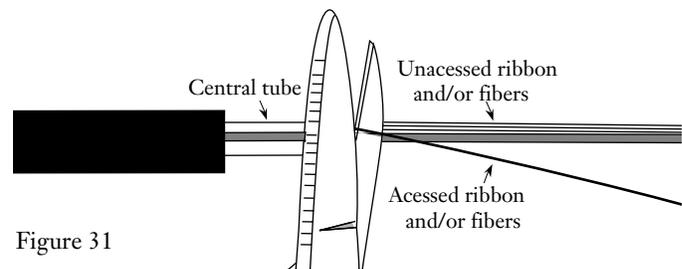

Figure 31
7.6 Using scissors, cut the fiber(s) (or ribbon) to be accessed as close as possible to the end of the central tube (Figure 31) **USE EXTREME CARE TO CUT ONLY THE FIBER(S) TO BE ACCESSED.**